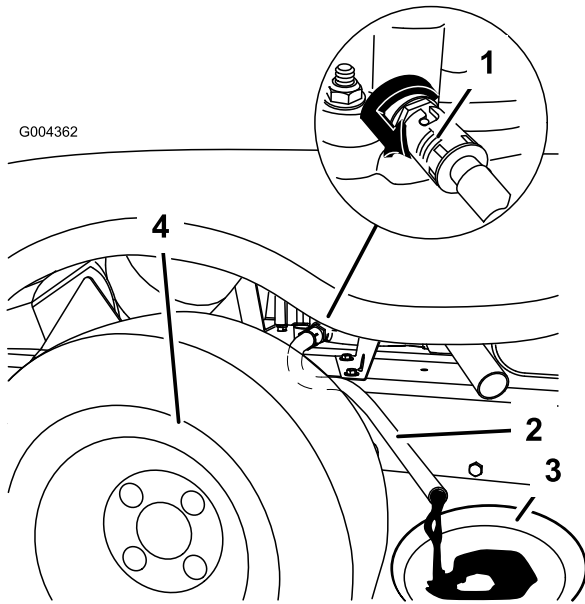

Figure 35
6. Place a pan below the drain hose. Open oil drain valve to allow oil to drain (Figure 35).
8. Remove the drain hose (Figure 35).